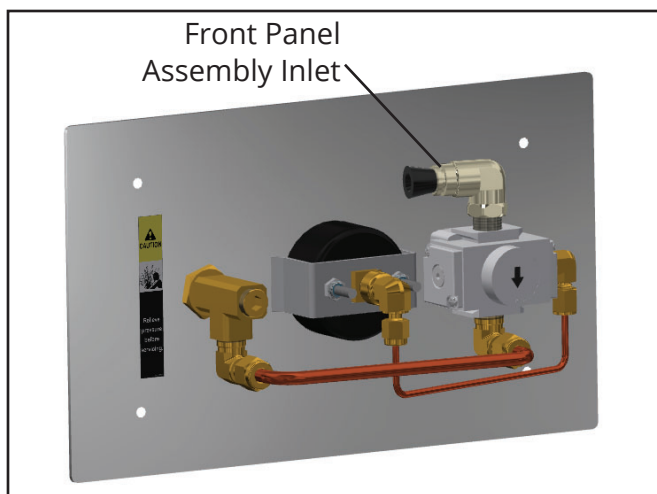

Figure 5
2. Remove port plug from left inlet connector and front panel assembly inlet. To remove, push port plug into connector until it bottoms out. Then, while holding down collet, withdraw plug (Figure 5)